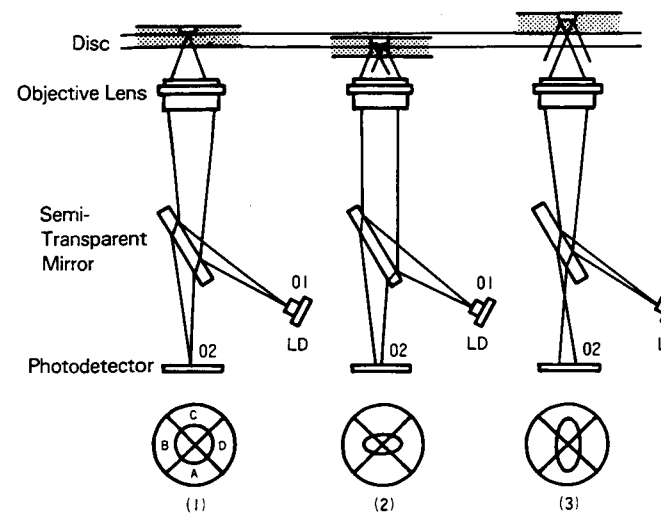
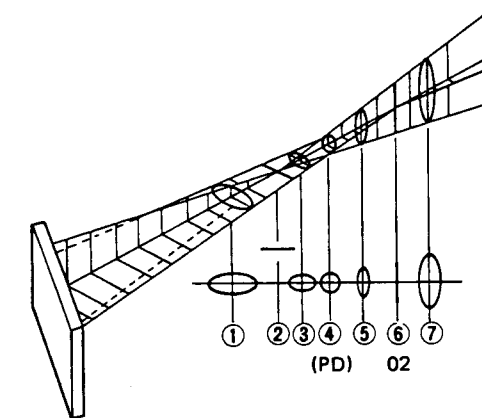
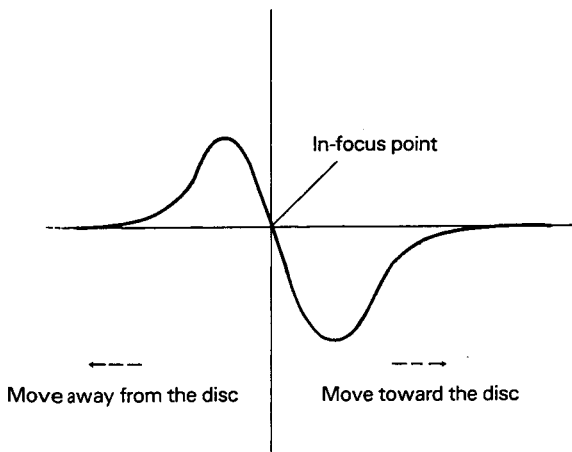

Fig. 12-3 Beam Focus on the Disc Surface
Fig. 12-4 Semi-Transparent Mirror
Fig. 12-5 The S-Shaped Curve
Fig. 12-3 shows how focus detection works. In (1), the light reflecting back through the objective lens forms a circle which touches all four photodetectors (labeled A through D) equally and signifies that the disc is in focus. The reflected pattern on the photodetectors forms an oval on the four photodetectors when there is a focus error. In (2), the disc is too close to the lens and in (3), the disc is too far. (The diffraction grating has been omitted from the figure for simplicity sake since it is not directly related to the focus signal and correction process.)
Fig. 12-4 displays the optical characteristics of the semi-transparent mirror. The lens affects only the vertical direction of the figures and not the lateral direction.
① through ⑦ in Fig. 12-4 show the beam shapes at varying distances from the semi-transparent mirror. Between the straight lines ② and ⑥ is the perfect circle ④. ⑥ corresponds to point (2) in Fig. 12-3. In order to make Fig. 12-4 coincide with Fig. 12-3 (1) to yield a circular beam shape, the photodetector must be set at ④. The beam shape in Fig. 12-3 (2) corresponds to a photodetector position in 12-4 that is relatively closer to the semi-transparent mirror, at about ③, with a horizontally elon-
gated oval shaped beam. Conversely, Fig. 12-3 (3) corresponds to a photodetector position at around ⑤ with a vertically elongated oval.
The possible beam shapes that hit the photodetector are shown in Fig. 12-3. The focus signal is derived by simple arithmetic based on the signals from the four photodetectors:  $(A + C) - (B + D)$ .
When the objective lens is too near or far from the disc track surface most of the light does not reflect back to the photodetector. When the light that reflects back to the photodetector hits each of the four photodetectors uniformly, the focus signal is 0. When the objective lens moves too far from the disc surface it reflects a vertically elongated oval beam pattern like that of ⑦ in Fig. 12-4 on the photodetectors. In terms of the arithmetic for the focus signal,  $(A + C) > (B + D)$  and the focus signal is a plus figure. As the lens moves closer to the disc to correct focus, the beam shape reaches its peak (a vertical line) at ⑥ and the lens continues to move away from the disc surface until  $(A + C) - (B + D) = 0$  and the beam reflects a perfect circle on the photodetectors. Conversely, when the objective lens is too close to disc surface, a horizontally elongated oval beam will fall on the photodetector. In terms of the focus signal  $(A + C) < (B + D)$  is a minus figure. As the objective lens moves away from the disc, it passes the horizontal line peak at ② and continues until the focus signal is 0. Fig. 12-5 graphs the typical S-shaped curve derived from the  $(A + C) - (B + D)$  focus signal.